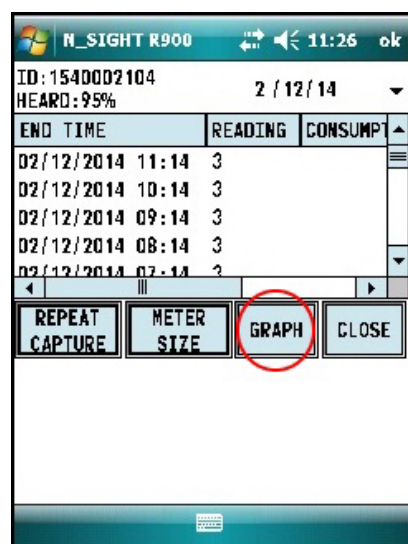
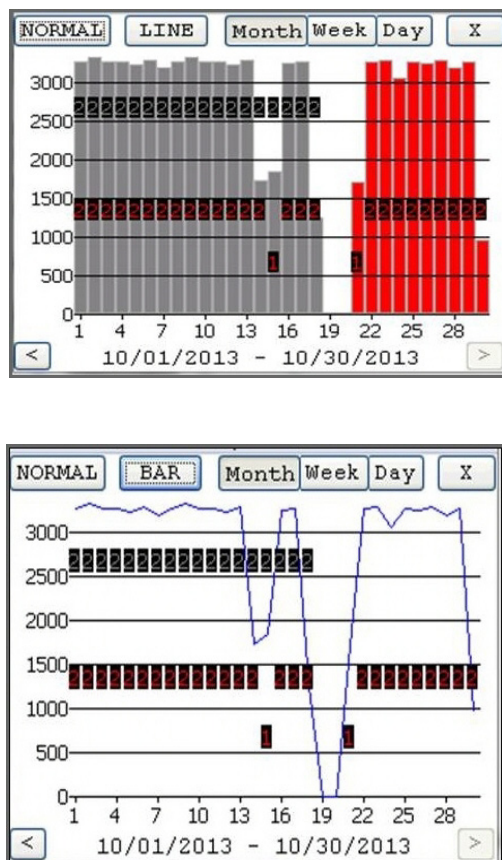

Figure 58 Graph Button
Figure 59 Examples of Data Logging Graphs
- Click **GRAPH** (see Figure 58) to display the data in a graph. Examples of graphs are shown in Figure 59 on page 36.